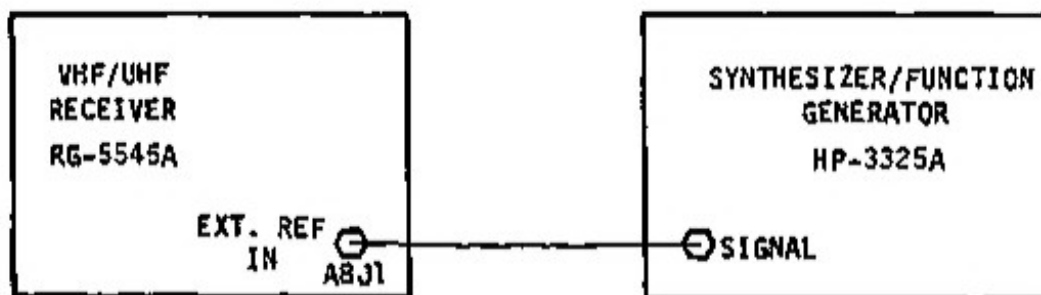

Figure 5-6. Reference Frequency Test
1. Obtain and interconnect test equipment as shown in Figure 5-6, then turn synthesizer/function generator on and allow at least 30 minutes warm up time.